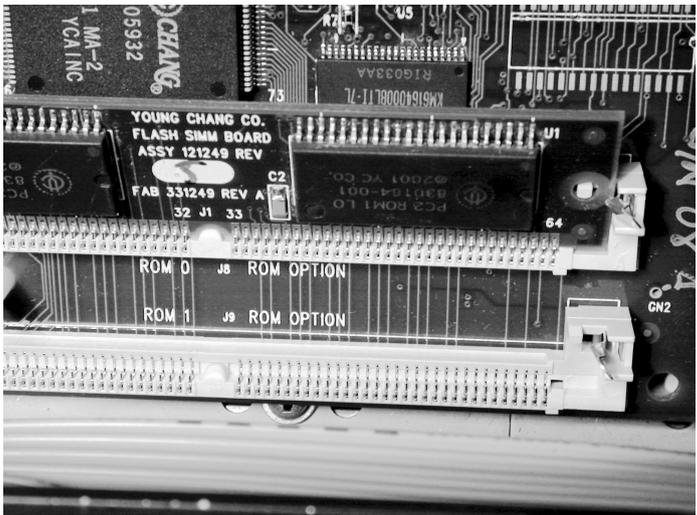

Figure 9 PCR-1 board properly installed on PCX-1 board
5. Figure 9 shows how the PCR-1 board looks when it's installed properly on the PCX-1 board.